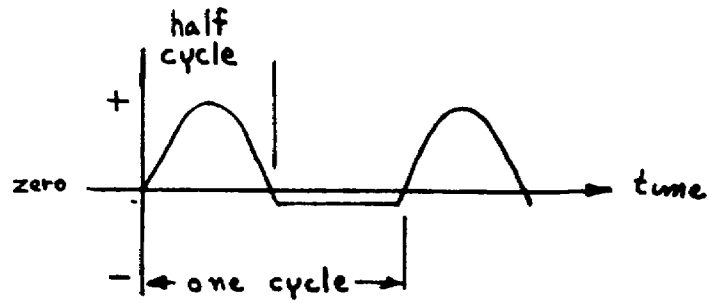

Figure 29. Half-wave rectifier.
(1) When the diode is forward biased, maximum current will be allowed to flow through the resistor thereby developing a positive half cycle.
(2) When the diode is reversed biased, minimum current will be allowed to flow through the resistor. If the minimum current approaches zero, then the voltage developed across the resistor will also approach zero. For all practical purposes it is said to be zero, since the value of positive voltage is much greater than negative.
(3) This circuit is called a half-wave rectifier because only half of the entire cycle of AC voltage is allowed to be developed across the resistor (fig 29).